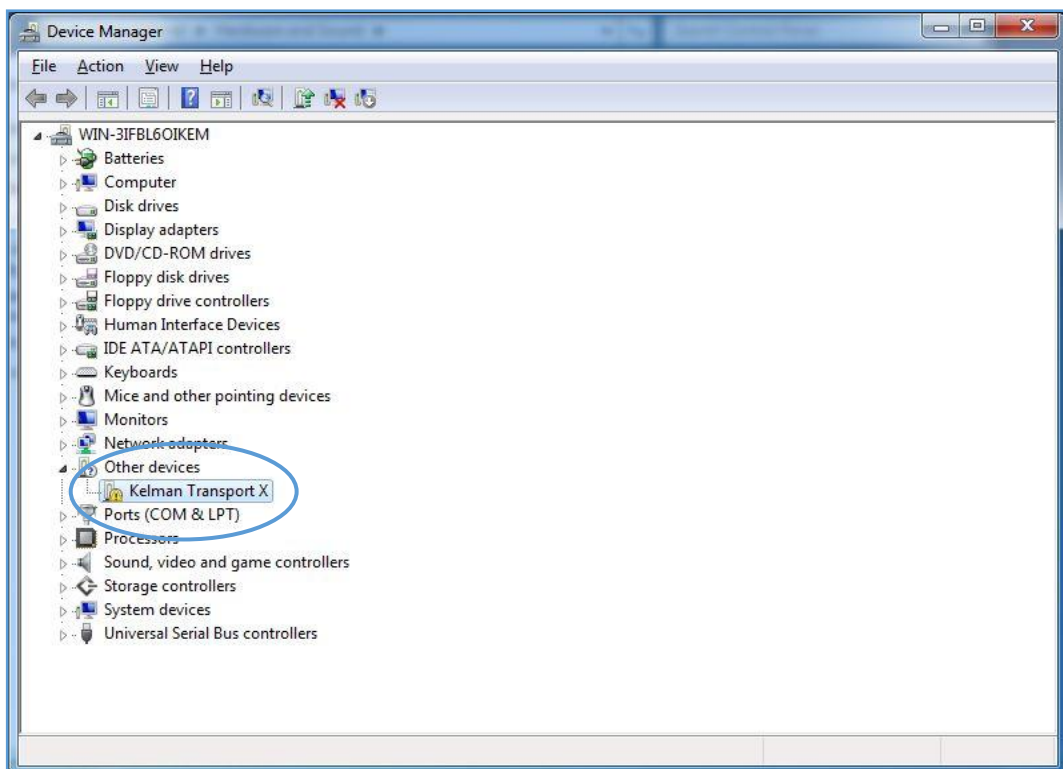

Figure A-9: Device Manager
- Expand **Other devices** to display **Kelman Transport X** as shown in Figure A-9.